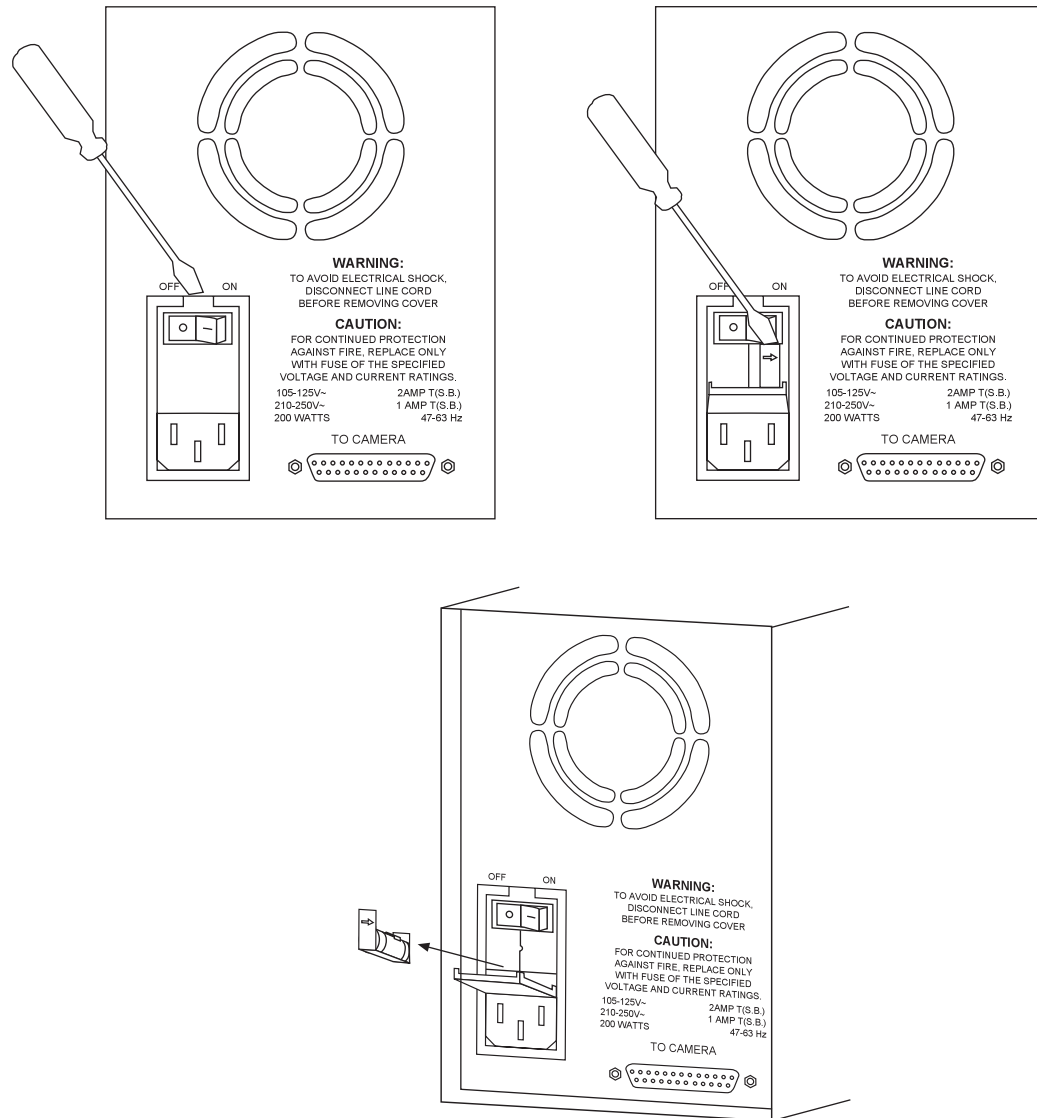

Figure 27. Power Input Assembly: Fuse Access
2. Insert a small screwdriver into the recess at the top of the Power Input assembly as shown in Figure 27 and pry open the cover.